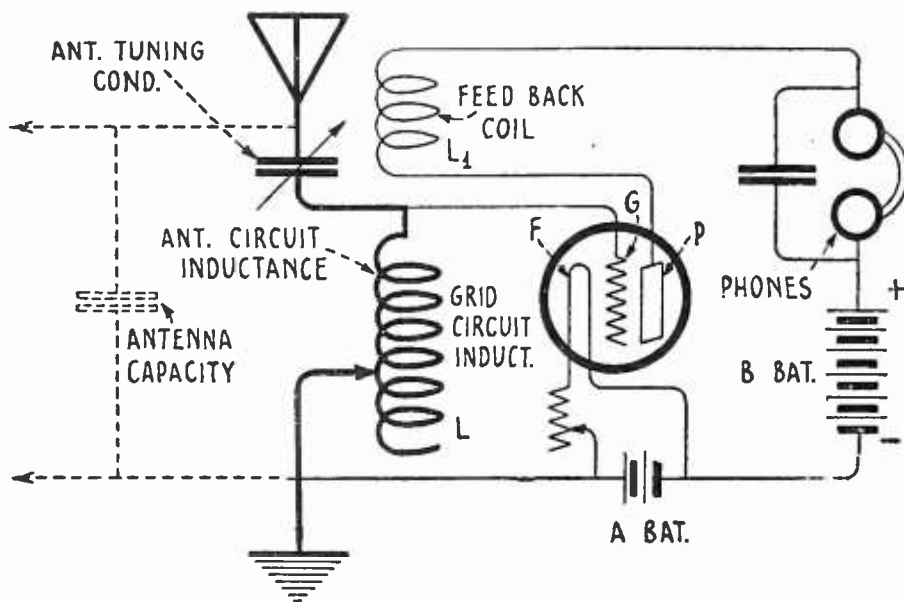
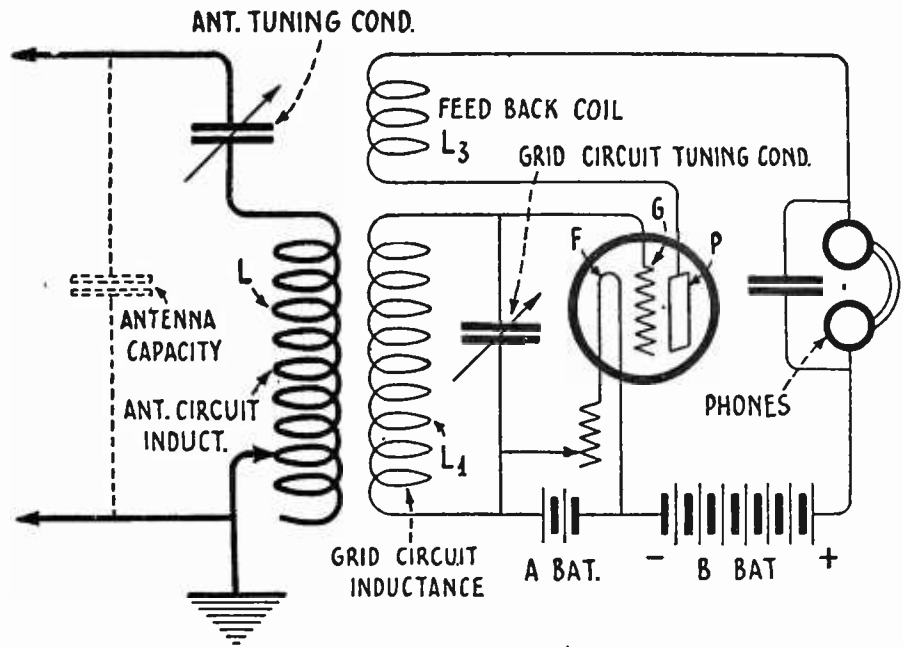

FIG. 1
FIG. 2
are known as: single-circuit regenerative receivers (Fig. 1), and three-circuit regenerative receivers (Fig. 2). Both have marked advantages over many other methods of reception.
may be gathered by comparison of Figs. 1 and 2. It will be noted that in the circuit of Fig. 1, the vacuum tube is coupled directly to the antenna circuit, while in Fig. 2, the vacuum-tube circuits are coupled to the antenna circuit through interlinkage of the magnetic fields of the two coils, L and L1. In the single-circuit receiver the coupling between the vacuum-tube circuits and the antenna is 100%, in the three-circuit receiver that value of coupling which works out to greatest advantage, both with regard to sensitivity and selectivity, is usually of the order of 1%.
The three-circuit arrangement. The principal point of difference between this and the hook-up shown in Fig. 1 is that the vacuum-tube circuits are inductively, not conductively, coupled to the antenna circuit
LET us apply this action in the circuits of Fig. 1. The condenser formed by the antenna and earth, the inductance and the variable condenser across which the antenna (condenser) is shunted, the connecting leads, the by-pass condenser and variometer, or "tickler," in the output circuit of the vacuum tube, all possess inherent qualities which tend
to resist the flow of any kind of electrical oscillation within or through them. If a bit of energy in the form of an electrical current is created in the antenna system, it rapidly spends itself in overcoming this resistive force and, by the time it has reached the point where we expect it to perform its useful function, serious inroads have been made upon it. The extent to which it is dissipated depends, of course, upon the amount of resistance which it is called upon to overcome. But let us assume that the circuit of our diagram (Fig. 1) is average in every respect, and that the resistance encountered is not too great to defeat effective operation. We have insured proper connections in our circuit and lighted the filament of the vacuum tube. Immediately this is done, current supplied by the B battery starts an electron flow across the vacuum from the filament to the plate.
**I**N THE three-circuit receiver of Fig. 2, this is not true. For example, let us assume that the vacuum-tube circuits are quiescent, and that a signal pulse arriving upon the antenna induces a like signal current in the secondary circuit of Fig. 2. The charge arriving upon the grid as the result of this inductive action will be slightly smaller than that charge arriving upon the grid had the grid circuit and antenna circuit been very closely coupled, depending upon the excellence of design of the receiver circuits. But, this slight loss, along with other losses of the circuits, may be, and is, fully compensated for by regenerative action and the signal built up and up in the system until its value is equal to or greater than that of the energy placed in the antenna by the passing electric wave. As the regenerative energies in the grid circuit grow larger and larger, their tendency toward control of their own destiny becomes greater and greater. Conversely, their dependence upon the form or nature of those oscillations in the antenna circuit be-